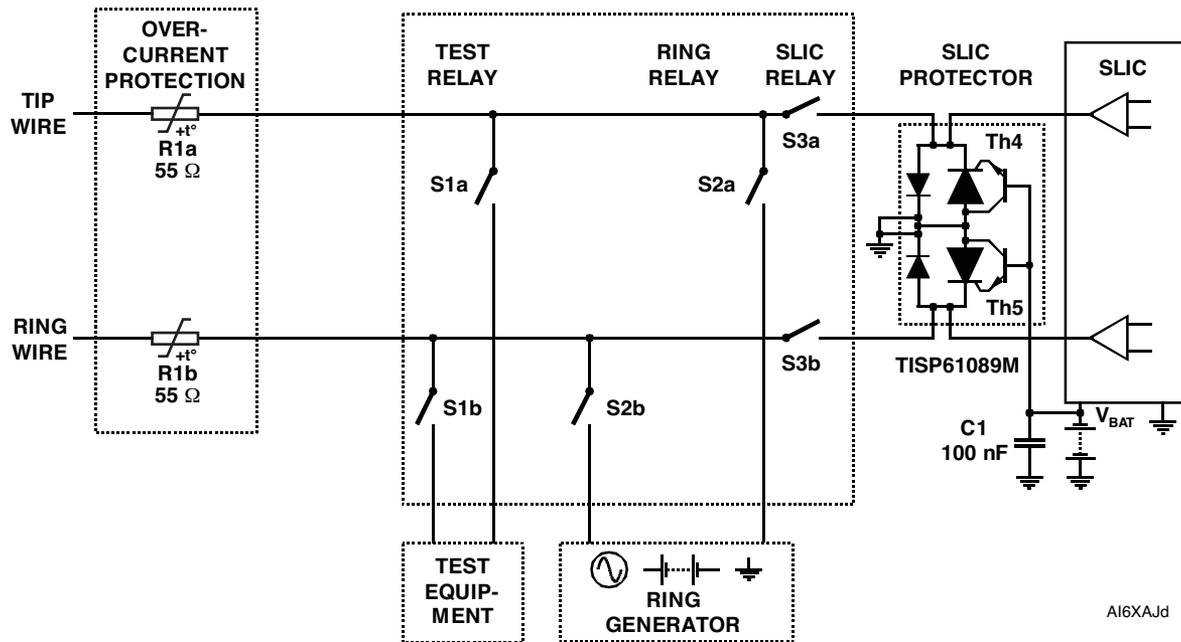

Figure 3. Typical Application Circuit
Figure 3 shows a typical TISP61089M SLIC card protection circuit. The incoming line conductors, Ring (R) and Tip (T), connect to the relay matrix via the series overcurrent protection. Positive temperature coefficient (PTC) resistors can be used for overcurrent protection. Resistors will reduce the prospective current from the surge generator for both the TISP61089M and the ring/test protector.